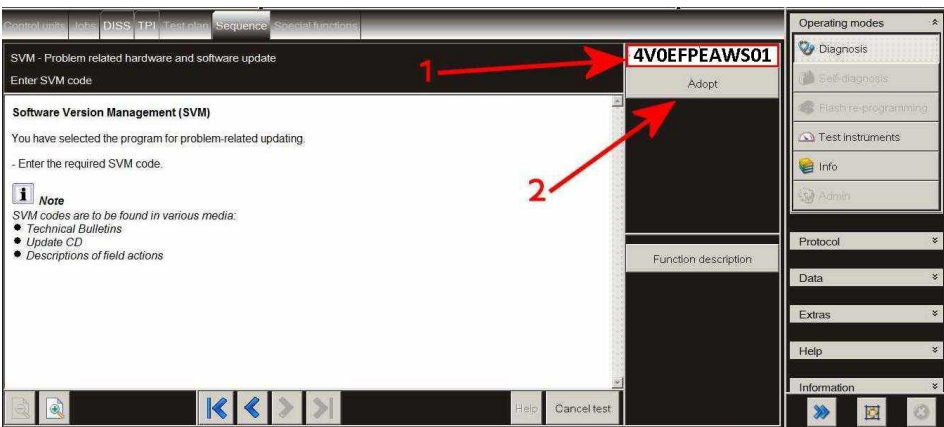

Figure 3
- Referring to Figure 3 – At the SVM screen (1) enter the specific SVM code 4V0EFPEAWS01 and then select Adopt (2)